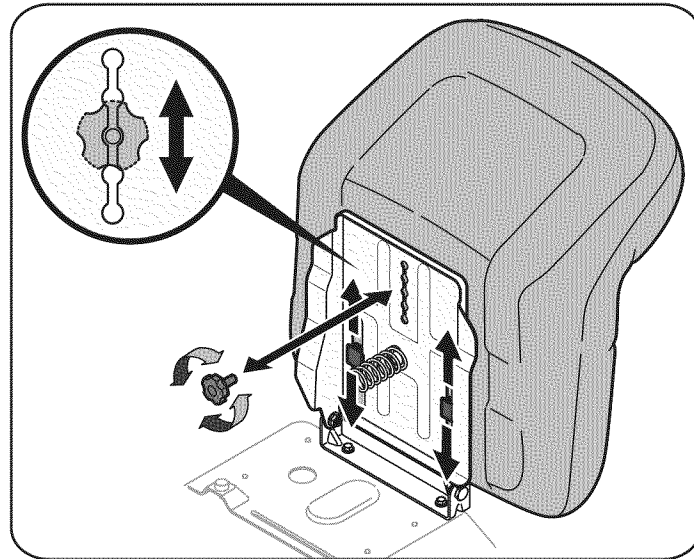

Figure 6
1. To adjust the position of the seat, remove the adjustment knob on the bottom of the seat. Slide the seat forward or backward as desired. Reinstall the adjustment knob. Refer to Fig. 6.